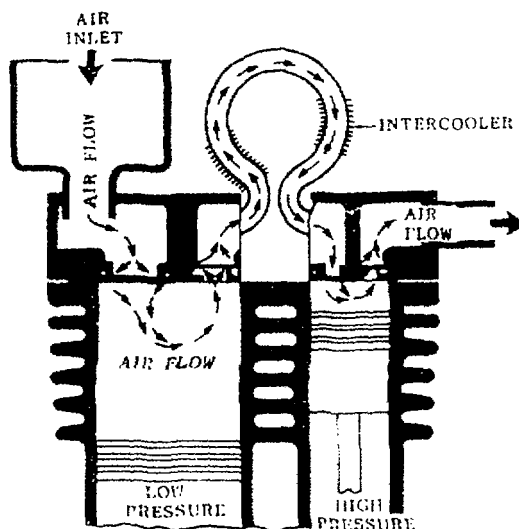

Figure 1-3. Air Compressor, Operation.
a. Compressor. (Refer to figure 1-3).
- (1) Filtered air is drawn into the first stage (low-pressure) cylinders at atmospheric pressure as the pistons move down.
- (2) The air is compressed when the pistons are moved upwards. When the air pressure inside the cylinders reaches a pre-determined value, the valve spring pressure is overcome and the air is forced out the discharge valve to the intercooler.
- (3) As the air flows through the intercooler, much of the heat of compression is dissipated.
- (4) The second stage (high-pressure) is similar to the first stage operation except that the air enters from the intercooler and is recompressed to a higher pressure.
- (5) The air then flows to the air receiver tank.